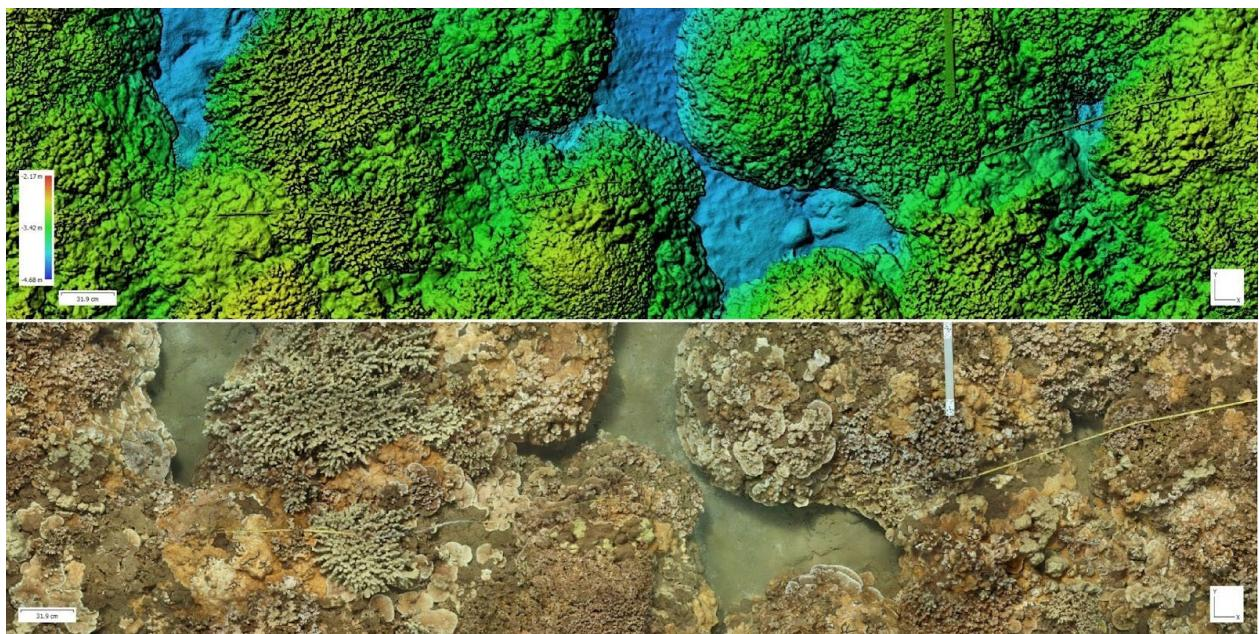

Figure 4.27 Agisoft Metashape illustration of DEM and orthomosaic image products.
2. In the Products folder, create a folder titled ARC, and export the year_site#_mos.tif into it (Figure 4.27).